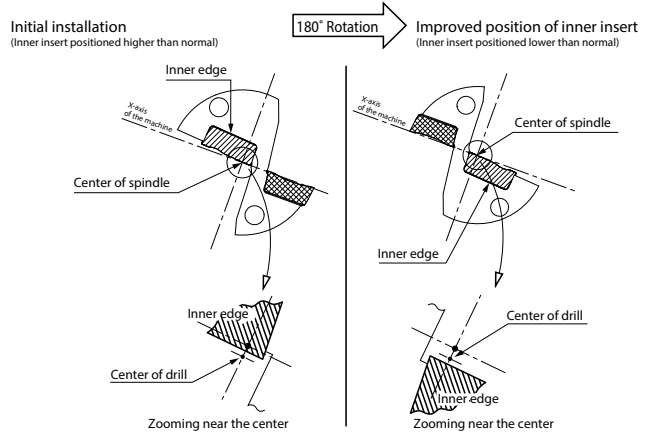

Fig. 8
1. Install the drill rotated 180°. Most problems will be solved by this method. (Fig. 8)